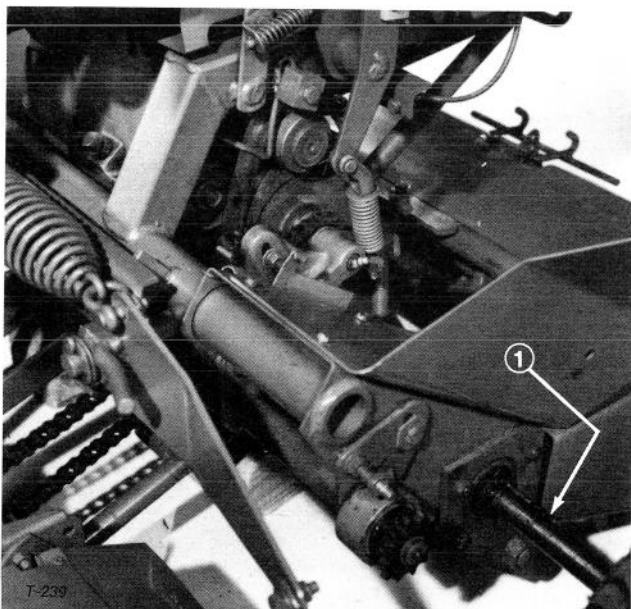
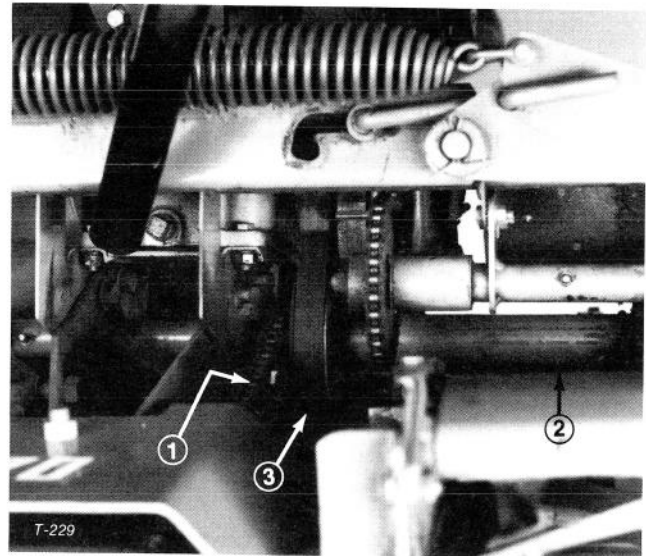

Figure 40
Figure 41
6. Pull left wheel, hub, differential and axle out (Fig. 40). Keep track of spacer washers used at each end of reel drive countershaft so exact quantities are used at each end when unit is re-assembled (Fig. 41).
7. Disconnect front cutting unit drive chain, remove and replace cutting unit drive belt (Fig. 41).